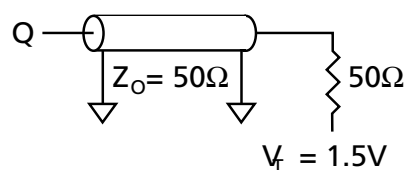

Figure 1
- NOTE:** 1. Test conditions as specified with the output loading shown in Figure 1 ($V_{DDQ} = +3.3\text{V} +0.3\text{V}/-0.165\text{V}$) unless otherwise noted.
Output load	See Figures 1 and 2